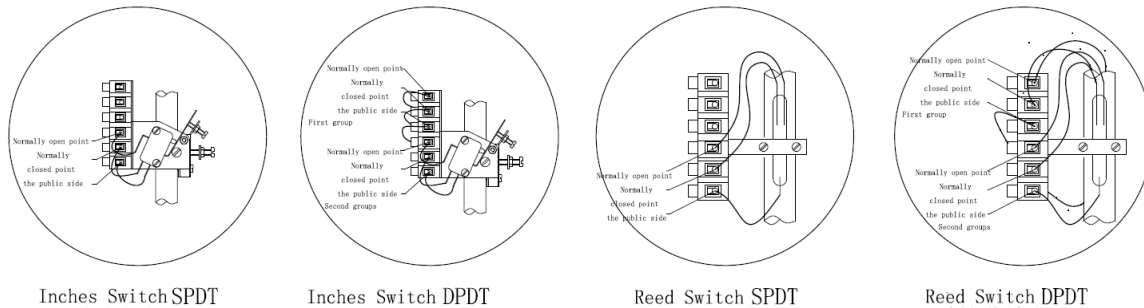

Figure 4 Electrical Wiring
2. According to the wiring diagram wiring, please note that the high-level and low-reporting switches are reversed. Be sure to connect to the correct terminal according to the wiring diagram (see Figure 4). For the SPDT form, the high-order report is connected to a pair of normally closed points - the common end, and the low-end is connected to a pair of normally open points - the common end; for the DTDP form, the high report is connected to two pairs of normally closed points - the common end, and the low report is connected to the two pairs. Opening point - public end.